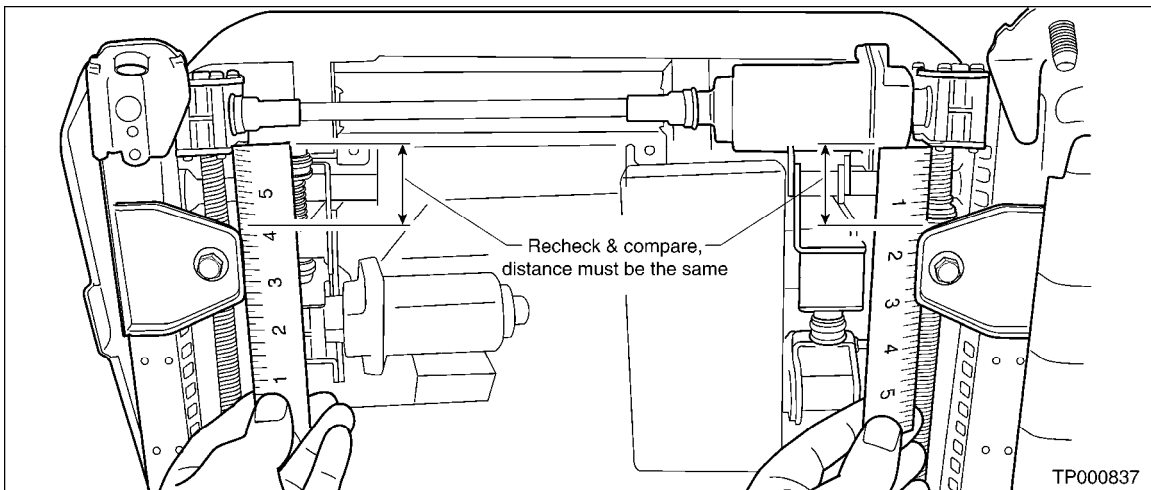

Figure 11
24. Check the gear box to mounting tab distance again. Make sure the distance has not changed (see Figure 11).